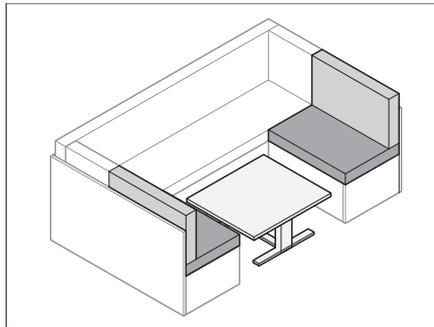

Fig. 73 Converting the table
- Convert the table (Fig. 73) into a bed foundation (see Section 7.8).